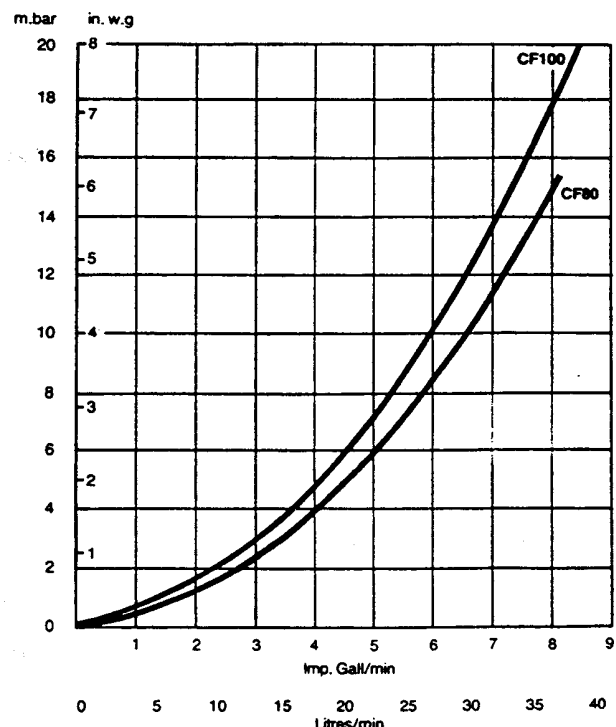

FIG. 1 PRESSURE LOSS ACROSS BOILER
6. The circulating pump should be selected with reference to Fig. 1 The resistance through the boiler heat exchanger will not exceed 10.5 mbar (4.2 in.wg.) at a flow rate of 6.6 gall/min. on the CF80 or 19.0 mbar (7.6 in.wg.) at a flow rate of 8.3 gall/min. on the CF100 model.